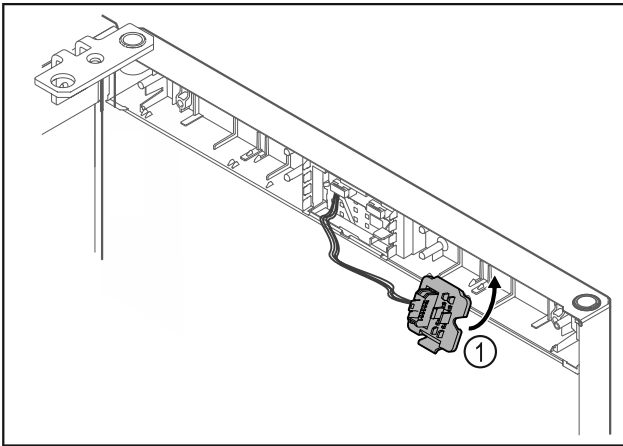

Fig. 17
- ▶ Snap in the plug holder Fig. 17 (1) on the opposite side.